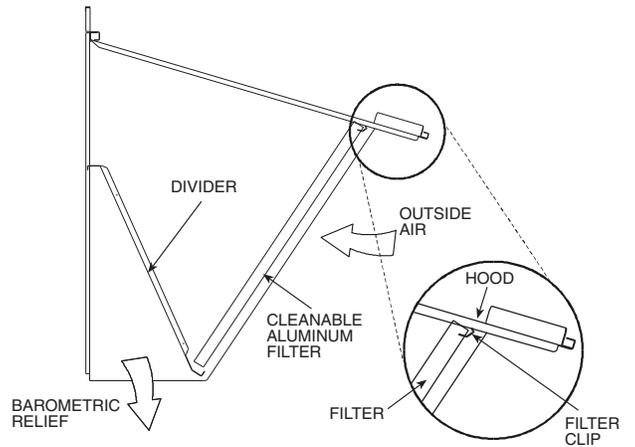

Fig. 22 — Economizer Filter Installation (Size 16 Shown)
5. Open the filter clips which are located underneath the hood top. Insert the aluminum filter into the bottom filter rack (hood divider). Push the filter into position past the open filter clips. Close the filter clips to lock the filter into place. See Fig. 22.